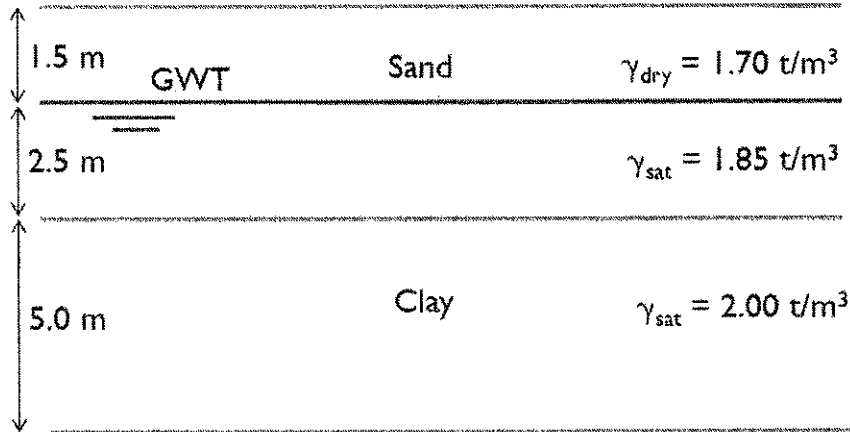

Figure 3 (a) (i) / Rajah 3 (a) (i)
- (a) (i) The profile shown in figure 3(a)(i) below is based on a soil investigation. Calculate the total effective stress of the soil at the depth of 1.5m, 4.0m and 9.0 m.